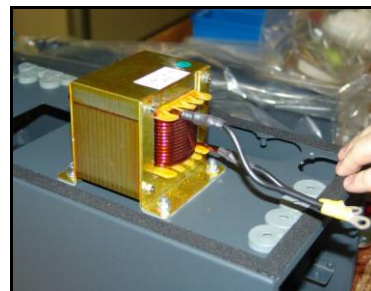

Figure 7.1.18
- 3) Remove the top of the chassis and put it face down (see figure 7.1.18).